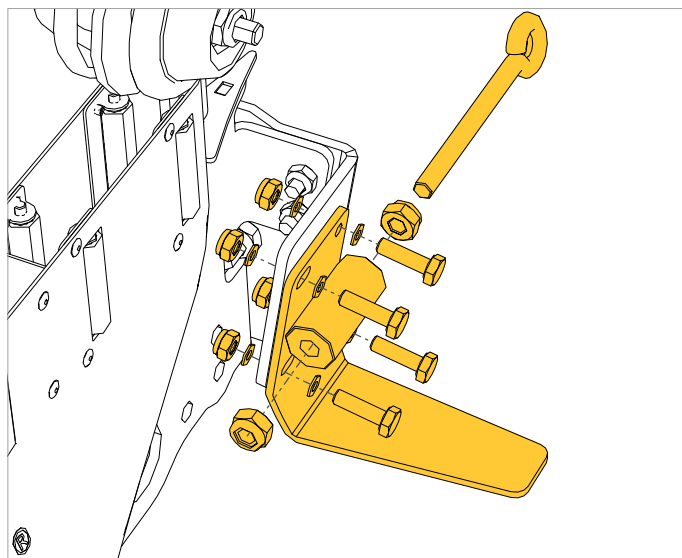

Fig. 4.3.4 Mounting the rope connector plates to the crab
- Attach both rope connector plates to the crab using 4x M4x20 bolts for each bracket. Attach the rope eye bolts with 2x M8 nuts, with the eye facing out. Refer to fig. 4.3.4